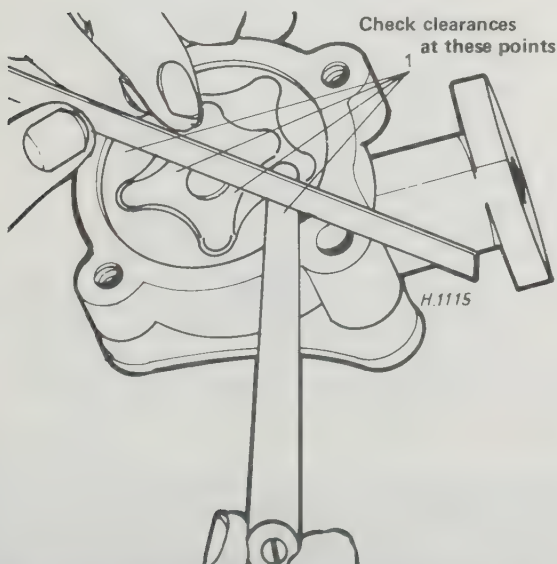

Fig. 1.55. Checking oil pump endfloat clearances (Sec. 40)
- 8 The endfloat clearance can be measured by placing a steel straight edge across the end of the pump and measuring the gap between the rotors and the straight edge. The gap on either rotor should not exceed 0.005 in (0.127 mm). See Fig 1.55.